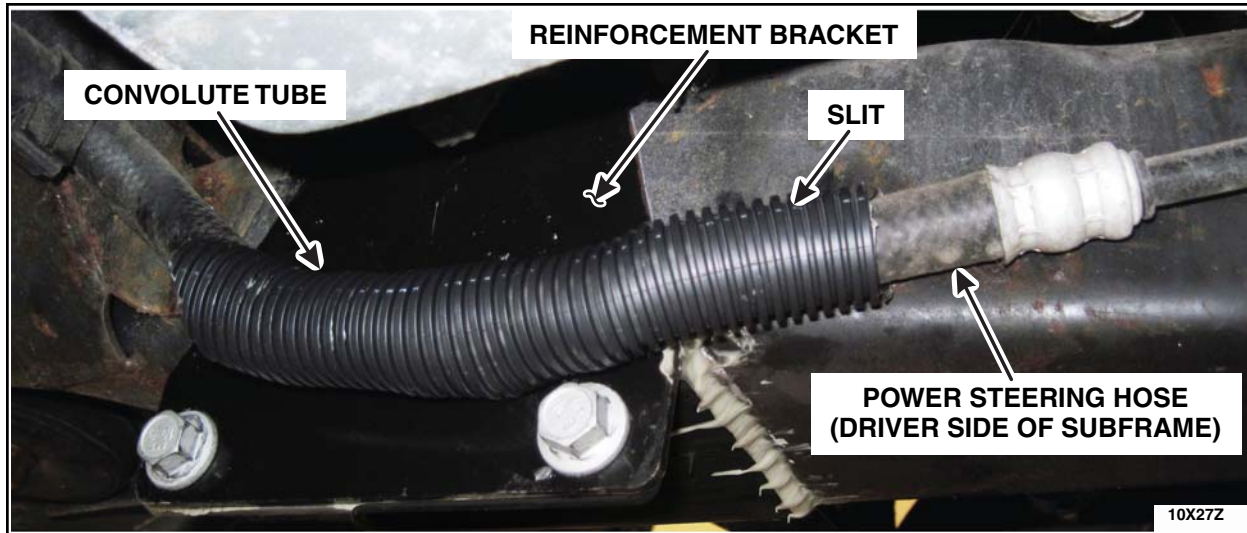

FIGURE 18
26. Install approximately 20 cm (8 in) of 19 mm (0.75 in) diameter convolute tube over the power steering hose to protect it from wearing on the reinforcement bracket. Ensure convolute tube is oriented with slit facing up as shown. Secure in place. See Figure 18.